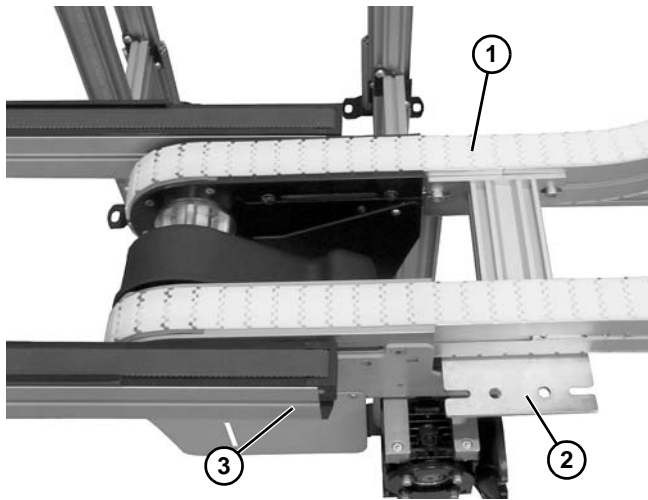

**Figure 105**
- Assemble washer (**Figure 105, item 1**) onto socket head screw (**Figure 105, item 2**). Thread bolt into slide-in nut (**Figure 105, item 3**). Repeat for a second bolt, washer, and nut.
- Insert bolt and nut assembly through end cap (**Figure 105, item 4**) into conveyor channel and slide down the channel.